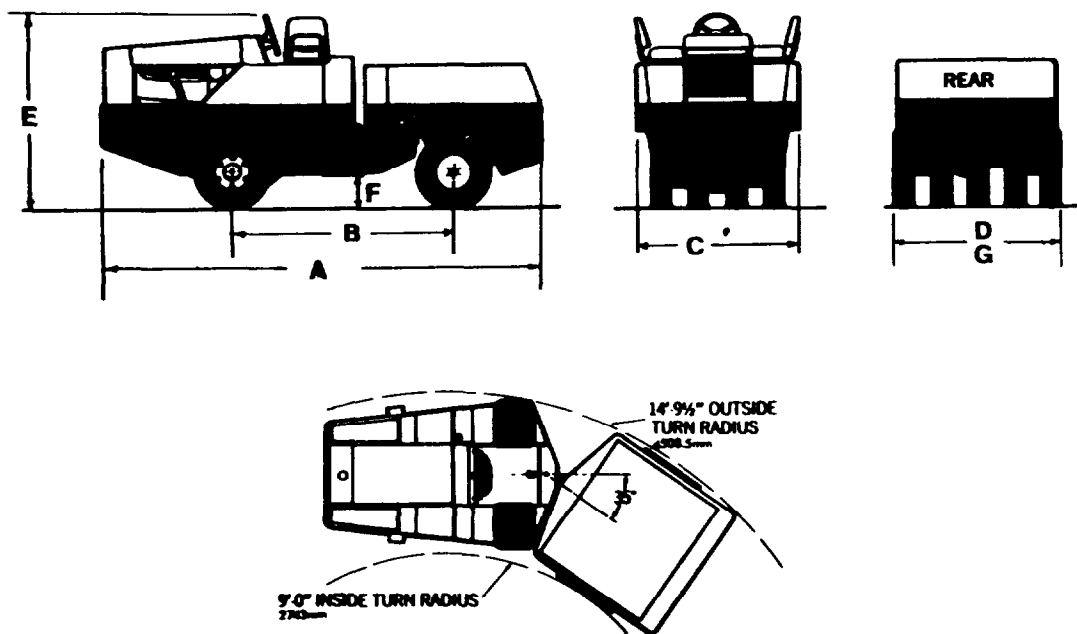

FIGURE 2-1. COMPACTOR DIMENSIONS.
**TABLE 2-1. COMPACTOR DIMENSIONS AND WEIGHT SPECIFICATIONS (See figure 2-1).**